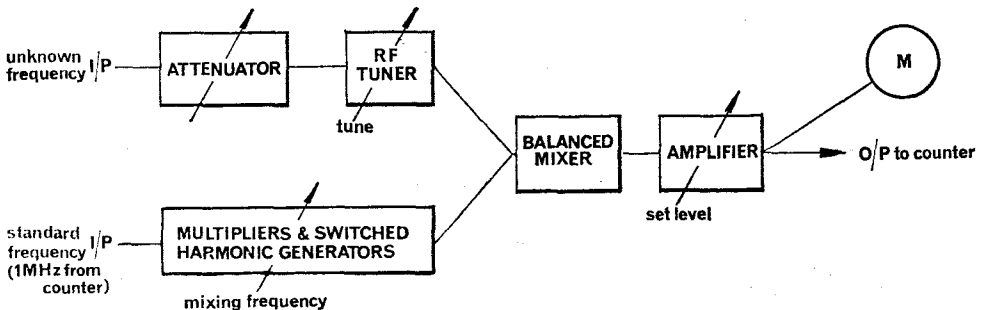

Fig. 14. Typical converter unit
34. **Typical counter converter unit.** Figure 14 shows an adaptation of the basic heterodyne circuit for use with an electronic frequency counter. The calibrated oscillator is replaced by harmonic generators which produce multiples of the standard input frequency to the same accuracy as the input standard (2 parts in 10^7 if the counter clock is used as the standard). This harmonic is mixed with the unknown input frequency to produce a difference frequency which lies within the operating band of the counter unit. After amplitude adjustment this signal is fed to the counter as described in para 27. To obtain the unknown frequency the counter reading is added to the harmonic frequency produced by the switched harmonic generators. The accuracy obtained is that of the harmonic i.e. 1 or 2 parts in 10^7 depending on the accuracy of the counter clock. More accurate readings can be obtained if an external standard frequency, such as the Droitwich transmission, is used to drive both the counter and the harmonic generators. Using this method readings to ± 1 count can be made up to about 500MHz when required for calibration purposes.